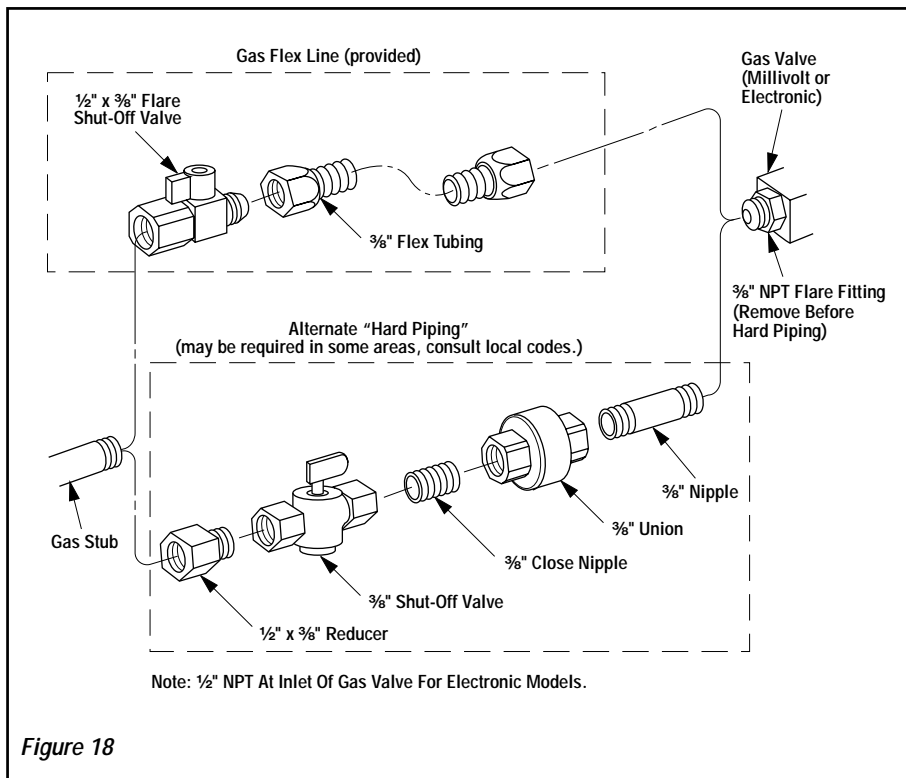

Figure 18
IMPORTANT: Ground lead must be connected to the green screw located on the outlet box. See Figure 18 on page 9. Failure to do so will result in a potential safety hazard. The appliance must be electrically grounded in accordance with local codes or, in the absence of local codes, the National Electrical Code, ANSI/NFPA 70-(latest edition). (In Canada, the current CSA C22-1 Canadian Electrical Code.)
Step 6. Connecting Gas Line – Make gas line connections. All codes require a shut-off valve mounted in the supply line. **Figure 18 on page 9** illustrates two methods for connecting the gas supply. The flex-line method utilizing the gas flex line provided with the appliance is acceptable in the U.S., however, Canadian requirements vary depending on locality. Installation must be in compliance with local codes.